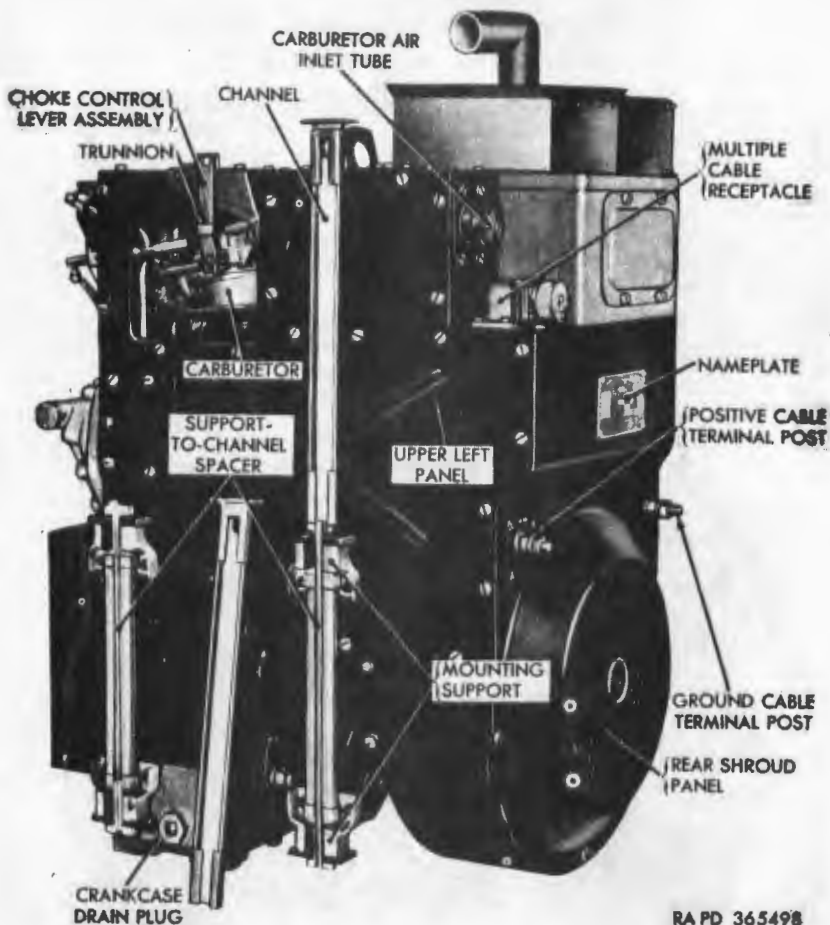

Figure 159. Auxiliary generator and engine—left rear view.
(5) *Cooling system.* Air for cooling the auxiliary generator and engine is provided by an impeller-type fan mounted on the rear of the generator armature shaft. The rear shroud panel (fig. 159) completely encloses the fan pre-
- (9) Disconnect cable connector from multiple cable receptacle (fig. 159) on auxiliary generator and engine.
- (10) Loosen screws on hose clamp securing air intake hose from silencer to carburetor air inlet tube (fig. 159) and remove hose from tube.
- (11) Loosen screw securing choke control cable wire to trunnion on choke control lever assembly (fig. 159) and remove wire from lever assembly. Remove panhead screw and lockwasher securing choke control cable support to guard and remove support.
Caution: Avoid lateral movement of unit during lifting operation to prevent damage to mounting supports (fig. 159).
- (1) Check to be sure master relay switch is in the OFF position. Attach hoist to auxiliary generator and engine. Aline mounting supports (fig. 159) on unit with mount-
ing rails on hull. Lower unit carefully into vehicle to approximately halfway point. Remove tape from terminal of positive cable and secure positive and negative cable terminals to terminal posts (fig. 159) on auxiliary generator and engine. Lower unit into position and remove hoist.
- (2) Position choke control cable support with cable on carburetor guard and secure with $\frac{1}{4}$ x $\frac{1}{2}$ panhead screw and integral lockwasher. Insert wire of choke control cable through trunnion of choke control lever assembly (fig. 159) and secure by tightening No. 8 x $\frac{5}{16}$ locking screw.
- (3) Position air intake hose from silencer on carburetor air inlet tube (fig. 159) and secure by tightening screw on hose clamp.
- (4) Connect cable connector to multiple cable receptacle (fig. 159).
- (5) Slide channels (fig. 159) on mounting rails and secure channels to rails with two $\frac{1}{2}$ x $\frac{3}{4}$ hex-head bolts and $\frac{1}{2}$ -inch lockwashers.